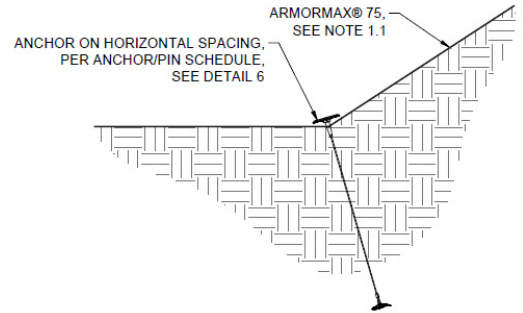

Figure 14: Break in Slope Interface
- For channel bank heights or channel bottom widths greater than 45 ft (13.7 m), install simulated check slots. This method includes placing two rows of pins 12 in (300 mm) apart on 12 in (300 mm) centers and one row of anchors between the rows of pins on 4 ft (1.2 m) centers at 45 ft (13.7 m) maximum intervals or across the midpoint of the slope for slope lengths less than 60 ft (18.2 m) (Figure 14).
- At the break in slope interface towards the channel bed, it is suggested that anchors be installed on 4 ft (1.2 m) centers (Figure 14).